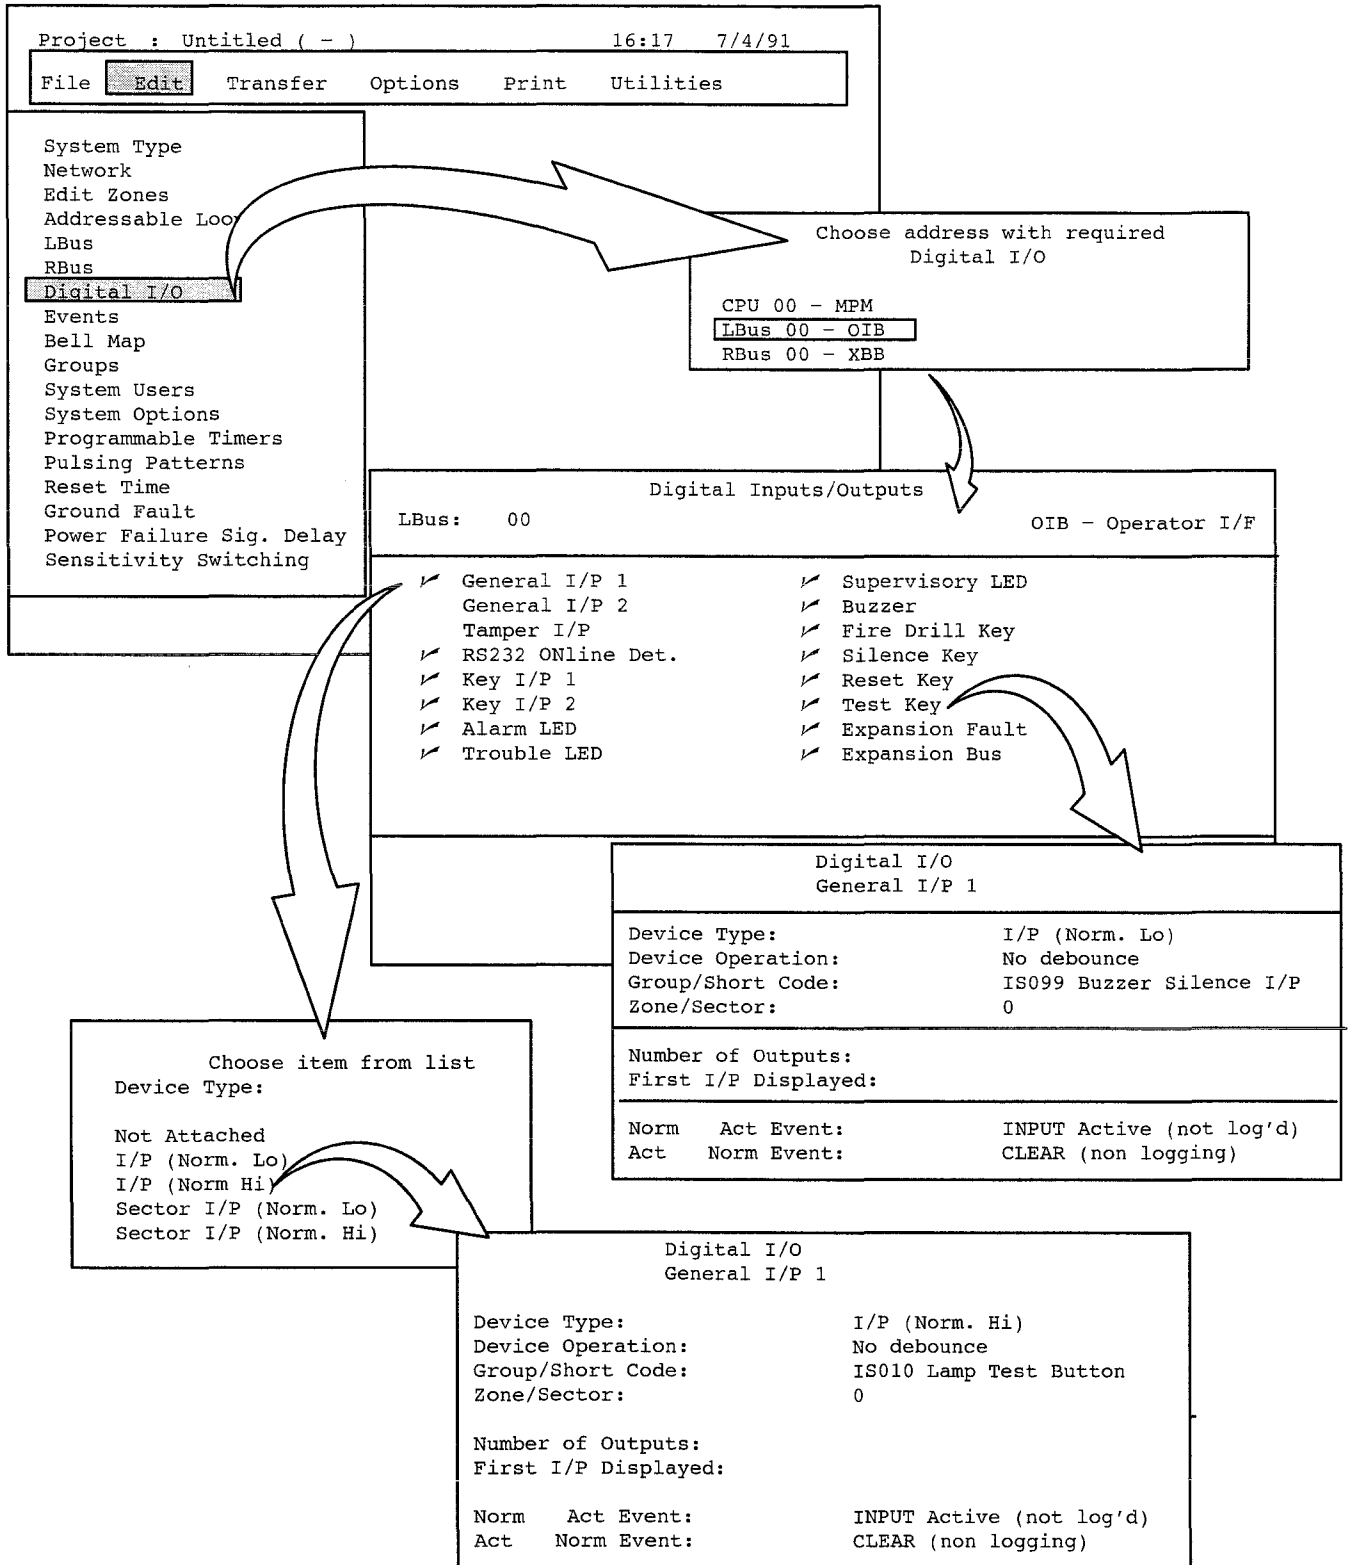

Figure 7. Editing Digital I/O Inputs/Outputs for (1) General I/P 1 input, (2) Changes to Test Key operation.
a. Select the "Digital I/O" menu option. (See Figure 7.)
i. Program "General Purpose Input 1" for device type "I/P (Norm. Hi)," special input group IS010 "Lamp Test Button." (See Figure 7.) To do this, move the cursor to "General I/P 1." Press Return. At the "Digital Inputs/Outputs" screen program:
ii. Re-Program the "Test Key" (See Figure 7) as follows: